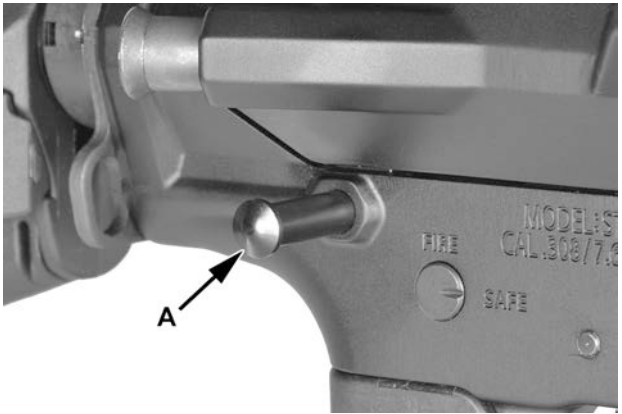

Figure 46
3. Pivot the lower receiver to the upper receiver and push the takedown pin (A) in. See figure 46.